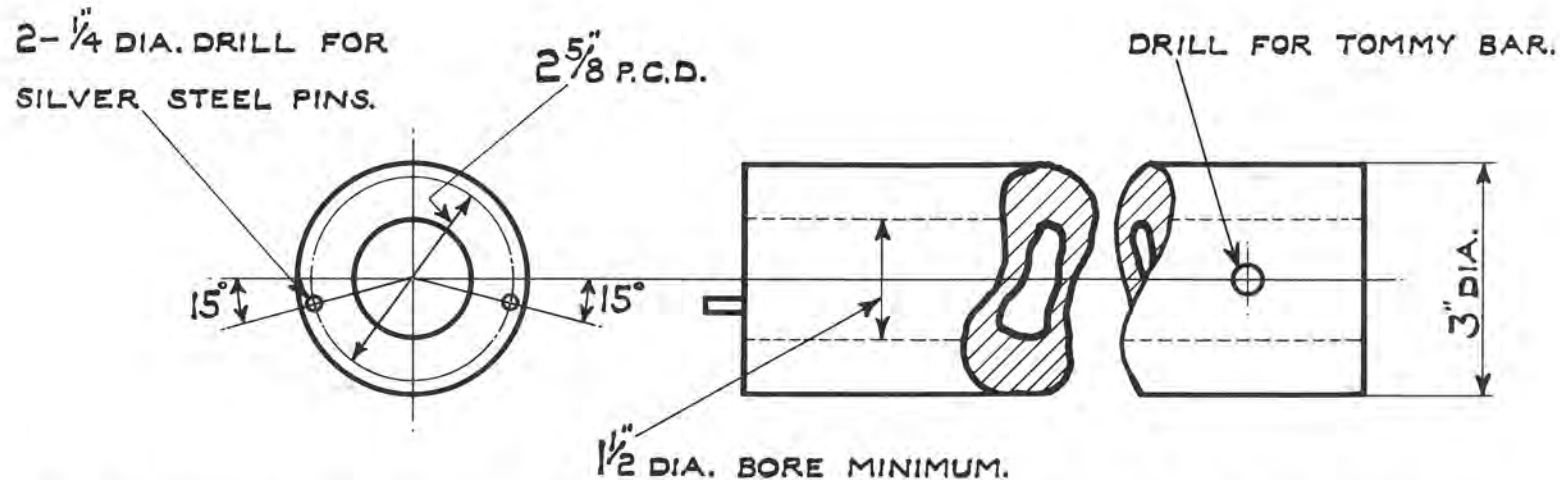

Fig. 17. SPECIAL SPANNER FOR CUTTER SPINDLE LOCKNUT ON L. H. 3. MACHINE.
- Note that to release locknut 'T' a special pin spanner is necessary, which can be made from tubing as shown in Fig. 17.